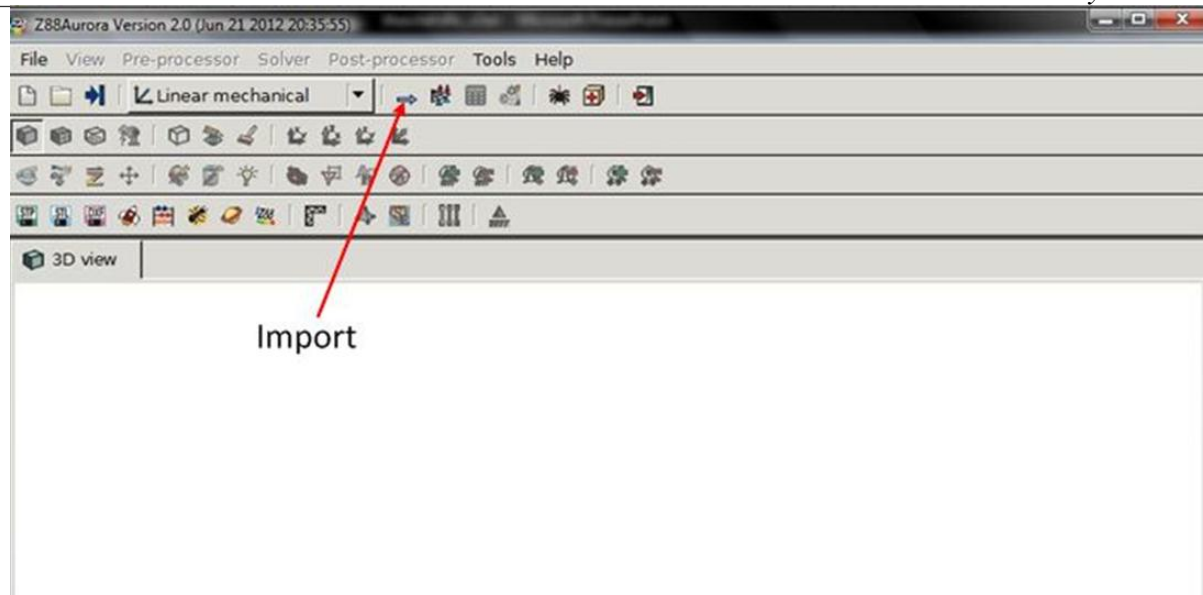

Figure 13: Import and export via the toolbar
2. Via the toolbar (figure 13)